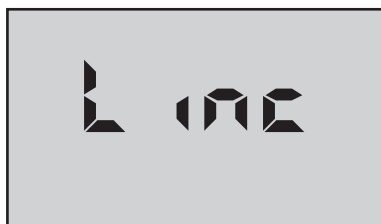

Figure 27
- Press **MR** arrow key until the menu “**Linc**” appears (see Figure 27).
2. Press  key until the menu "Linc" appears, (see Figure 27).